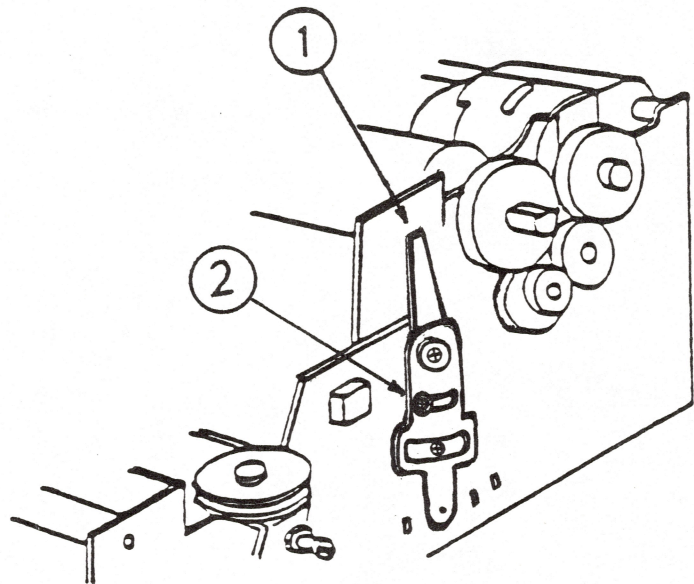

FIGURE 2
2. If the print darkness is uneven at the top and bottom of characters, loosen the impression control lever adjustment screw (see Figure 2, #2) and move the impression control lever until the print darkness is equal at the top and bottom of characters. Tighten the screw after adjustment is complete.